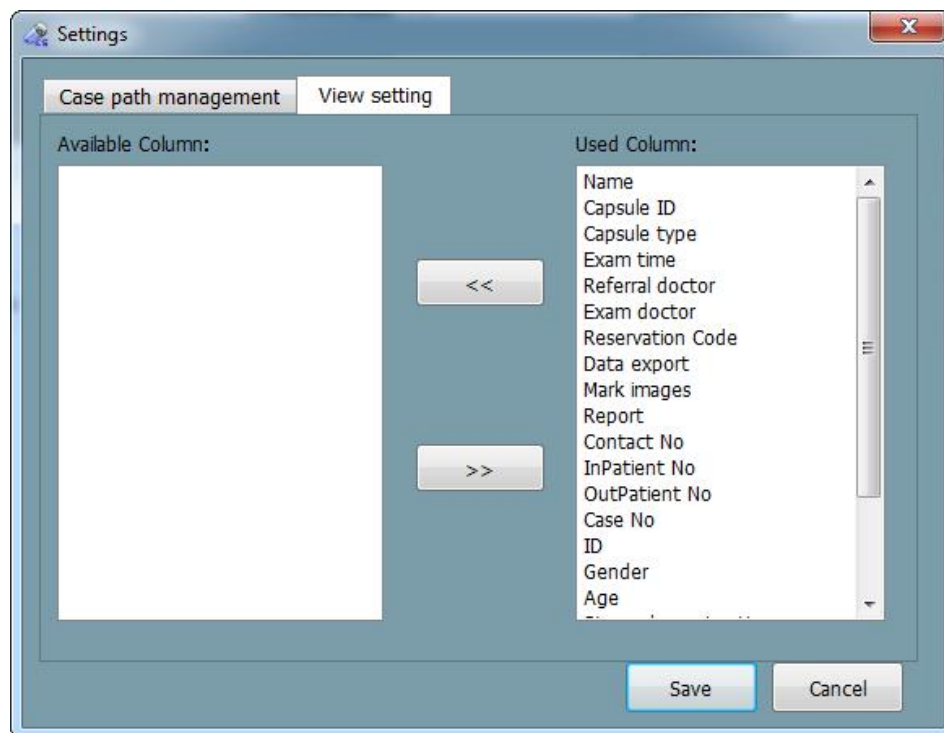

Figure 4- 118 View Setting Interface
4. In the Case Management interface as shown in Figure 4- 116, select a case and click  to open the case video and load the finding file; Click  to open the case video; click  to open the recently saved report; click  to access the Patient Information Editing interface as shown in Figure 4- 119, where you can change case data. In the Image Browsing interface as shown in Figure 4- 12, open the video file and click "File" → "Edit Patient Information" to access the Case Editing interface.